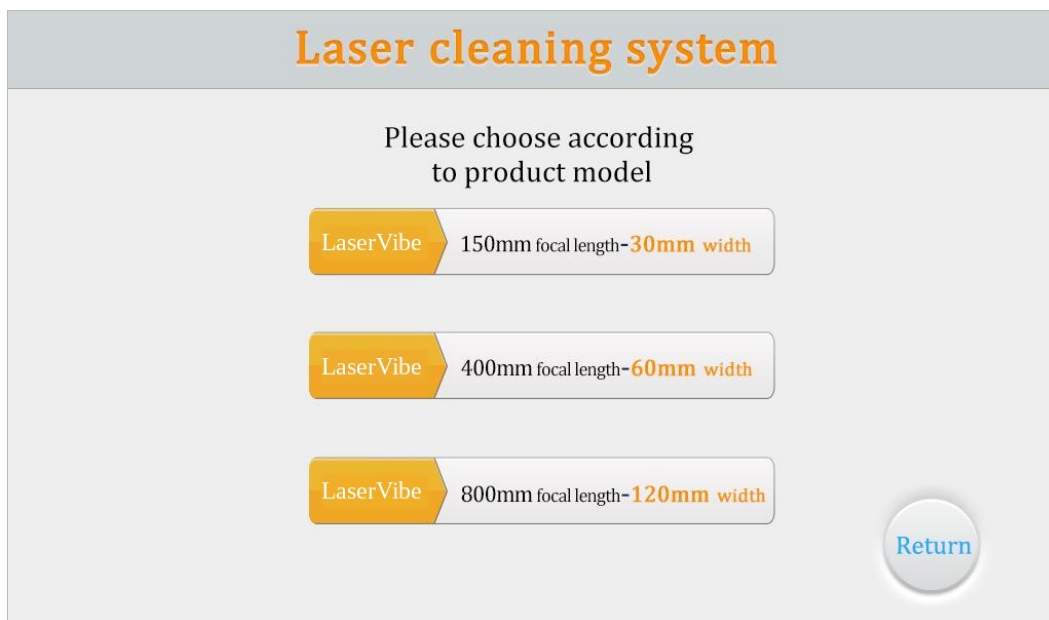

Fig. 3.18 Choosing the focusing lens: F150 - 30 mm, F400 - 60 mm, F800 - 120 mm maximum cleaning width
- 10 Gunhead model:** select the focusing lens fitted, which sets the maximum scan width (Fig. 3.18).